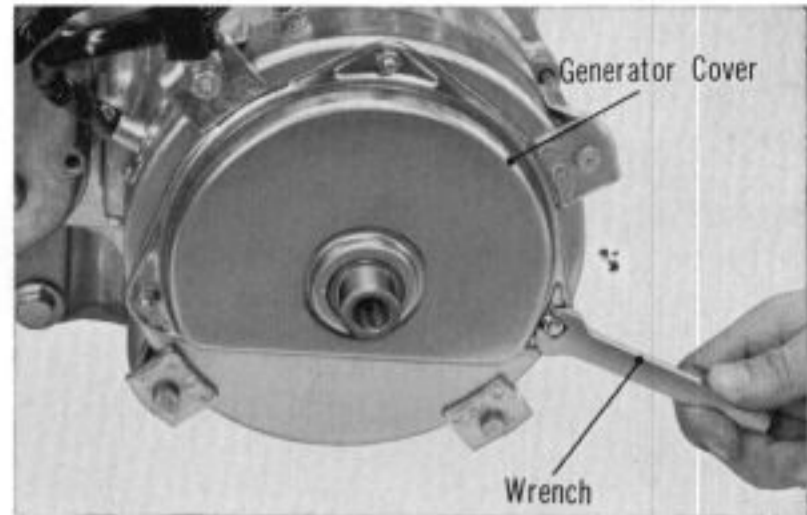

Fig. 17A-4
3. Remove generator cover with special tool generator cover nut wrench. (Fig. 17A-4)